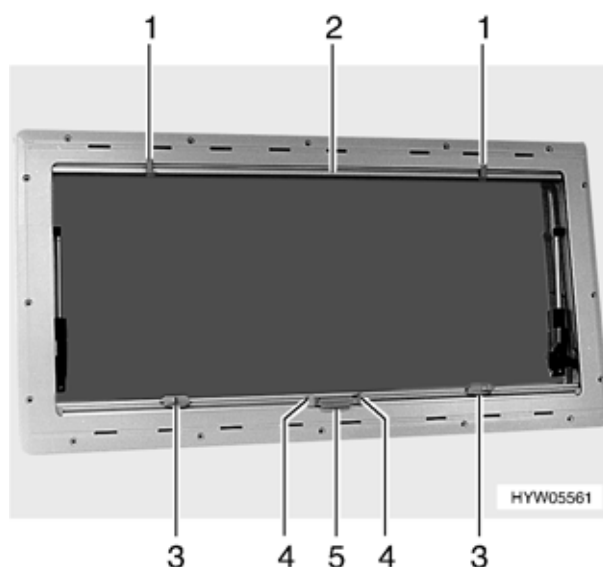

Fig. 50 Hinged window (variant 3)
- Press handle (Fig. 50,4), pull the blind (Fig. 50,5) from the bottom to the top, and release the blind at the required height. The blind will remain at this height.
- Clench the handle (Fig. 50,4). The latch is released.
- Grip the insect screen (Fig. 50,2) using the bar and pull it down until it touches the blind (Fig. 50,5) and engage the closure latches (Fig. 50,1) in the locking device (Fig. 50,3).
- Release both latches (Fig. 50,1) simultaneously.